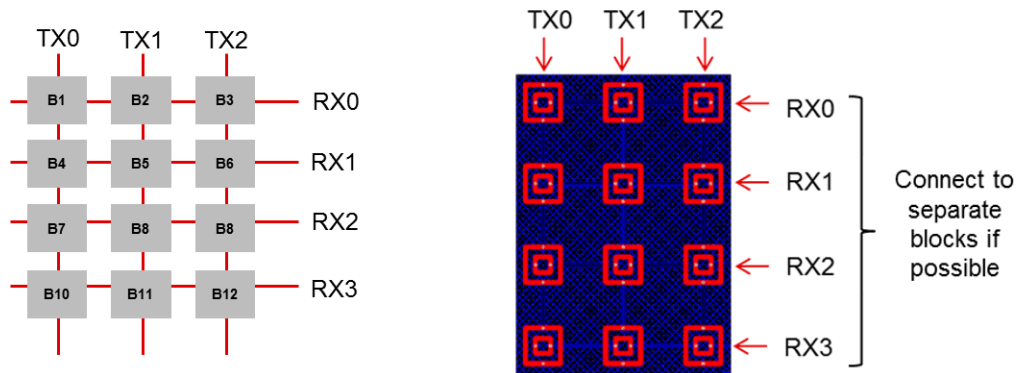

Figure 11. Mutual-Capacitance Matrix
- Figure 11 shows an optimized layout for selecting TX and RX pins in an application with 12 mutual-capacitance buttons. This layout is optimized to reduce the number of pins and scan cycles.